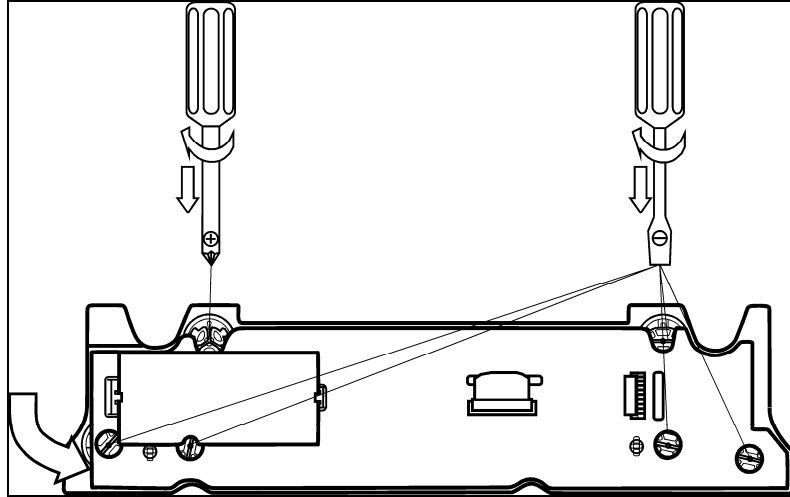

Figure 001-64: Display Electronic Removal, CVA 680x
11. Insert a screwdriver into the retainers on the housing (Figure 001-64).